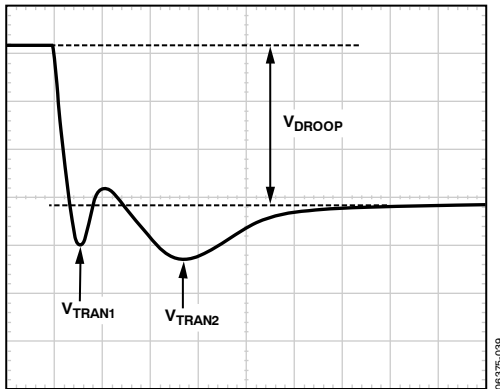

Figure 39. Transient Setting Waveform, Load Step
1. With the dynamic load set at its maximum step size, expand the scope time scale to  $2 \mu\text{s}/\text{div}$  to  $5 \mu\text{s}/\text{div}$ . This results in a waveform that may have two overshoots and one minor undershoot before achieving the final desired value after  $V_{DROOP}$  (see Figure 39).